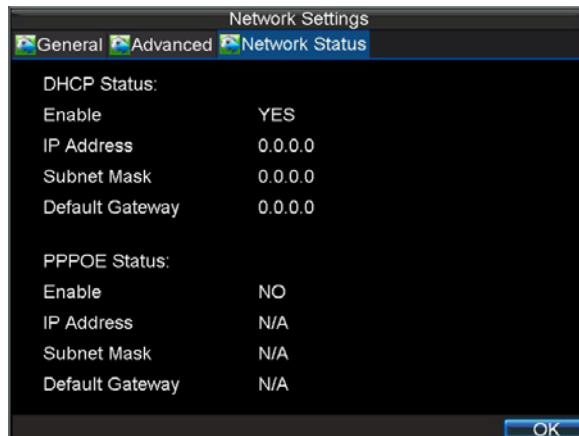

Figure2. Network Status
3. If you have a DHCP server running and would like your DVR to automatically obtain an IP address and other network settings from that server, check the **DHCP** checkbox. You may check the DHCP status by going to the **Network Status** tab, as shown in Figure 2.